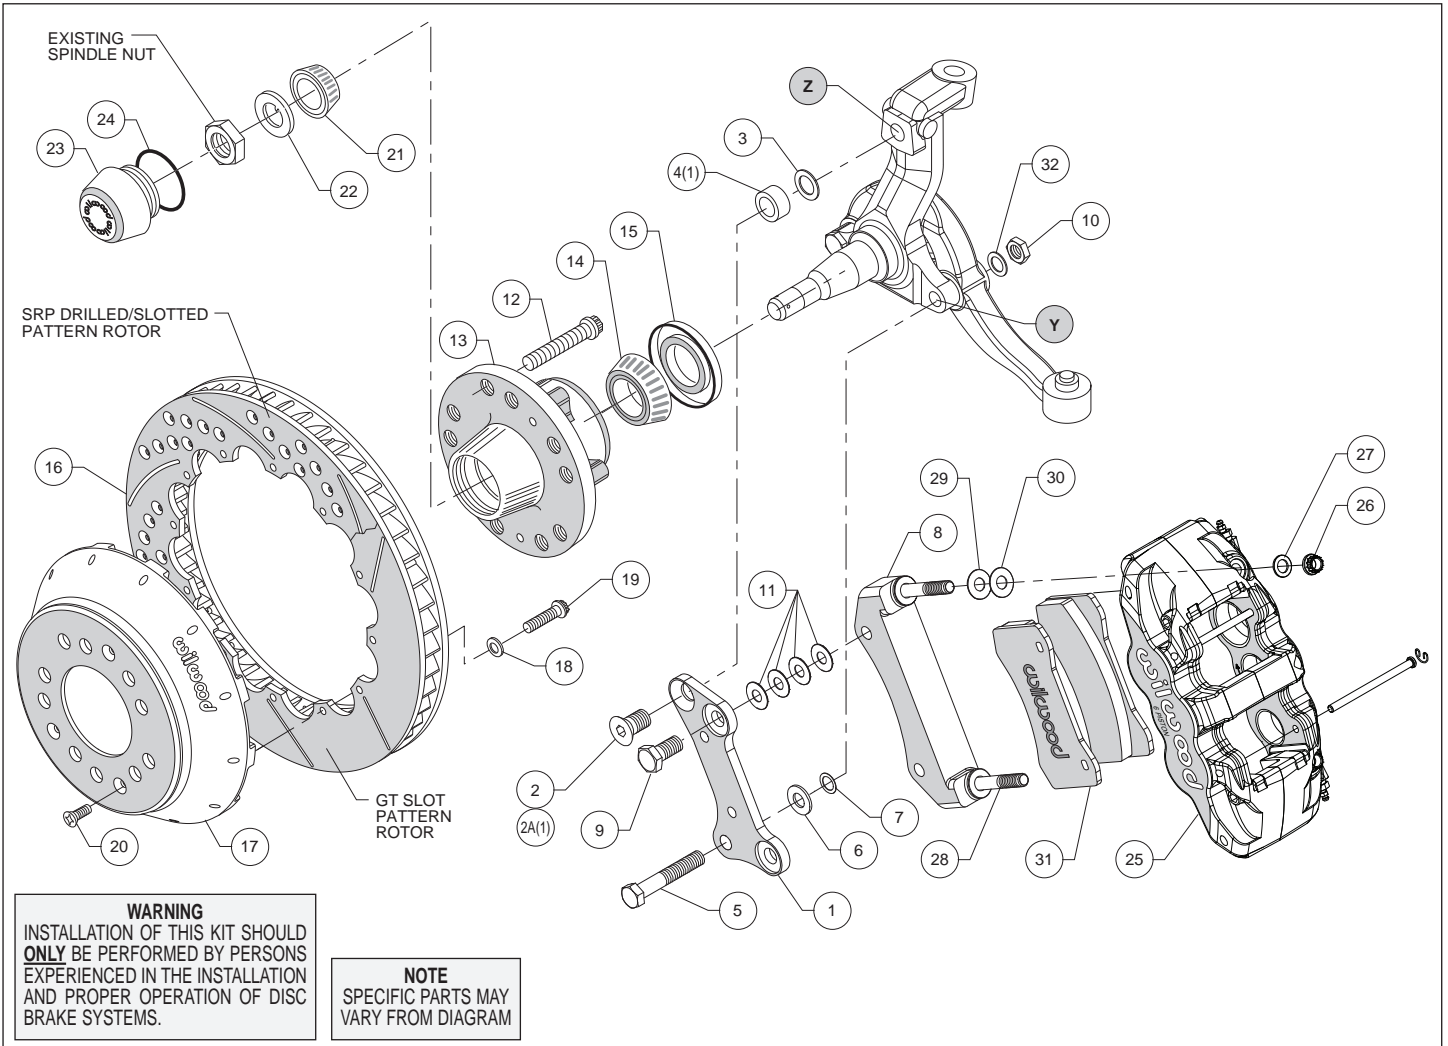
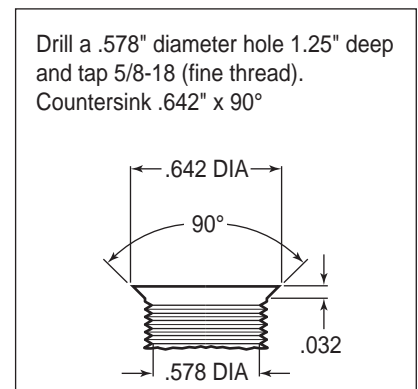
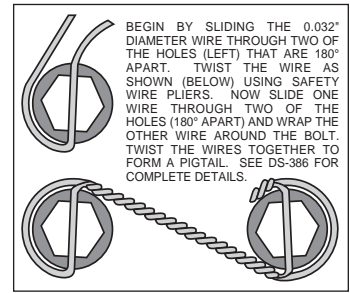

Figure 1. Typical Installation Configuration
Figure 3. Drill and Tap Detail
Figure 4. Safety Wire Diagram
Assembly Instructions (numbers in parenthesis refer to the parts list, and Figure 1 on the preceding pages):
- NOTE:** 1964-66 spindles may require the following modifications (reference Figures 1 and 3): Top anchor pin hole (Z) must be drilled and tapped to the dimensions as outlined in Figure 3. Bottom rear steering arm bolt hole (Y) in the spindle and steering arm must be enlarged to .50" by drilling.
- Install wheel studs (12) into the hub (13), Photo 1. Torque to 77 ft-lb. **NOTE:** There are two five lug patterns in the hub (5 x 4.50 and 5 x 4.75). Ensure the correct hub stud pattern is being used to fit the wheel application.
- Pack the large inner bearing cone (14) with high temperature disc brake bearing grease (available from your local auto parts store) and install into the backside of the hub (13), Photo 2.
- Install the grease seal (15) by pressing into the backside of the hub (13), flush with the end of the hub, Photo 2.
- Orient the rotor (16) and the hat (17) as shown in Figure 1 and Photo 3. Attach rotor to hat using bolts (19) and washers (18). Using an alternating sequence, apply red *Loctite*® 271 to the threads, and torque to 155 **in-lbs**. For an added measure of security, the bolts may be safety wired using standard 0.032 inch diameter stainless steel safety wire as shown in Figure 4.
- Attach caliper mounting bracket (1) to spindle face using lower bolt (5), and a .090" thick spacer (6) positioned between the bracket and the spindle face, as shown in Figure 1. Secure bolt on the backside of the steering arm with nut (10) and washer (32). Finger tighten. Install upper bolt (2) (for drum spindle) or bolt (2A) with spacer (4) between bracket and spindle (for disc brake spindle). Ensure that the flanged heads of the clinch nuts in the bracket are facing outboard. Temporarily tighten the mounting bolts and install the new hub (13) and rotor assemblies (16/17). Check that the bracket is aligned parallel to the rotor,
Photo 4. If not, adjust by adding shim washers (3 and/or 7) between spacers (4 and/or 6) and the bracket, Figure 1. Once the bracket alignment is correct, remove the bolts one at a time, apply red *Loctite*® 271 to bolt threads, and torque upper bolt (2 or 2A) to 120 ft-lb. and lower nut (10) to 77 ft-lb.
- The radial mount caliper bracket (8) should initially be installed with clean dry threads on the mounting bolts. Orient bracket as shown in Figure 1, and install using bolts (9). Initially place four shims (11) on each bolt between the two brackets. Temporarily tighten the mounting bolts. Later, after the caliper alignment has been checked, the mount bolts will be secured using red *Loctite*® 271.
- Pack the small outer bearing cone (21) with high temperature disc brake bearing grease and install into hub (13). Final install the hub assembly onto the spindle. Secure using spindle washer (22), and OEM spindle nut, Photo 5. Adjust bearings per OEM specifications. Install new cotter pin (not included).
- Final install the hat/rotor (16/17) onto the hub (13) taking care to align the small countersunk holes in the hat with the small threaded holes in the hub. **NOTE:** The hat must fit flush against the hub face or excessive rotor run out may result. Install three flat head screws (20) through the small holes in the hat (17), Photo 7, and torque to 85 in-lb.
- NOTE:** This kit contains distinct right and left hand calipers that must be mounted in a specific direction, as described below. Lubricate the caliper mounting studs (28) with lightweight oil. Initially place one .016" thick shim (29), and one .029" thick shim (30) on each stud between the caliper and the bracket, as shown in Figure 1 and Photo 8. Mount the caliper (25) onto the bracket (8) using lock nuts (26) and washers (27), Figure 1. Ensure that the caliper is mounted so the largest pistons are at the rotor exit end of the caliper, in relation to the direction of rotor rotation. Temporarily tighten the lock nuts and view the rotor through the top opening of the caliper. The rotor should be centered in the caliper, Photo 9. If not, adjust by adding or subtracting shims (11) between the flat bracket and the radial mount bracket. Always use the same amount of shims on each of the two mounting bolts. Once the caliper alignment is correct, remove the radial mount bracket bolts one at a time, apply red *Loctite*® 271 to the threads, and torque to 77 ft-lb.
- Remove the two pad retaining pins from the caliper (25) by carefully popping out the pin retaining clips and sliding out the pins. Insert the brake pads (31) into the caliper from the bottom, Figure 1, Photo 10. With the friction material facing the rotor, secure the brake pads in place with the pad retaining pins and clips, Photo 11. Reinstall the caliper onto the caliper mounting bracket and temporarily tighten the lock nuts. Check that the top of the brake pad is flush with the outside diameter of the rotor, Photo 12. If not, adjust by adding or subtracting shims (29 and/or 30) between the caliper and the bracket. After the caliper pad height is set, torque the caliper lock nuts (26) to 47 ft-lb.